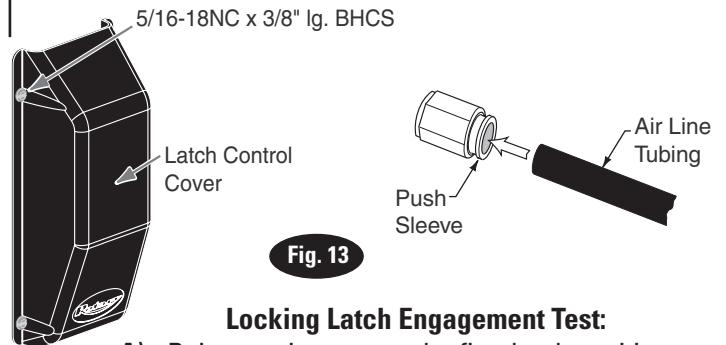

Fig. 13
- E)** Install latch covers with 5/16"-18NC x 3/8" lg. BHCS, Fig. 13.